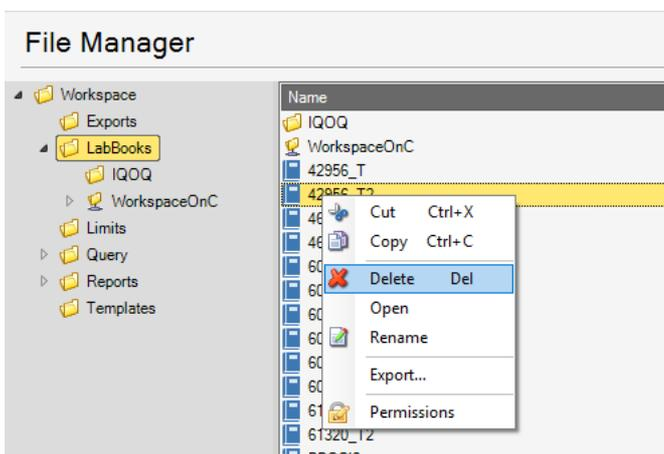

Figure 4-64. Shortcut menu of file for delete
2. Right-click the file you wish to delete, see Figure 4-64.